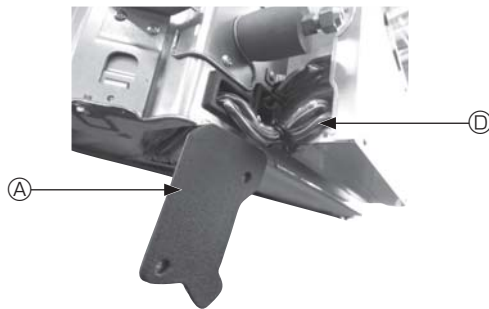

Fig. 4-4
- ① Remove the two screws securing the wire cover of the main unit, and then open the cover.
- ② Route the wires of the i-See sensor and signal receiver through the wire inlets in the electric component box as shown in the diagram and around the bushings on the side of the main unit. (Fig. 4-4)